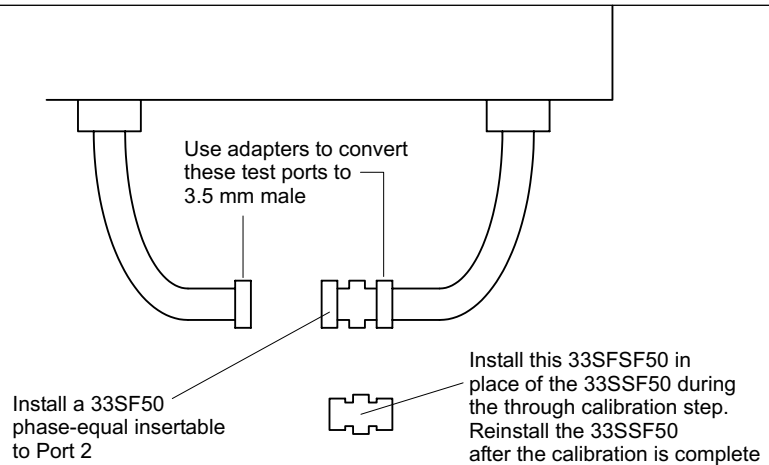

Figure 3-14. Phase Harmonic Calibration Setup
1. Install the cables and adapters as shown in Figure 3-14.